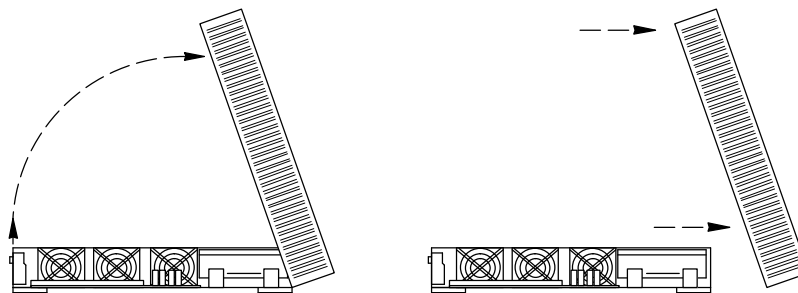

Figure 3-3. Removing the System Unit Cover, Side View
3. Grasp the sides of the cover from the rear and lift the cover as shown in Figure 3-3. Push the cover forward until its hinge tabs are free of the system unit.